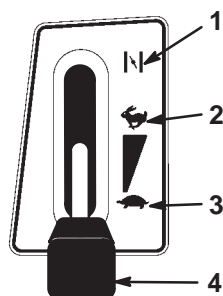

Figure 8
- Shift the throttle lever to Choke (Fig. 8).
- After the engine starts, slowly shift the throttle lever to Fast (Fig. 8). If the engine stalls or hesitates, shift the throttle lever back to Choke for a few seconds and then shift the throttle lever to Fast. Repeat this step as required.
- Shift the throttle lever to Fast (Fig. 8).